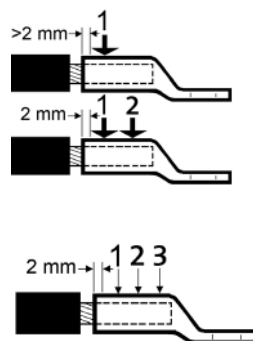

Fig. 2
**Note! Number of crimps, see tooling table and fig 2.**